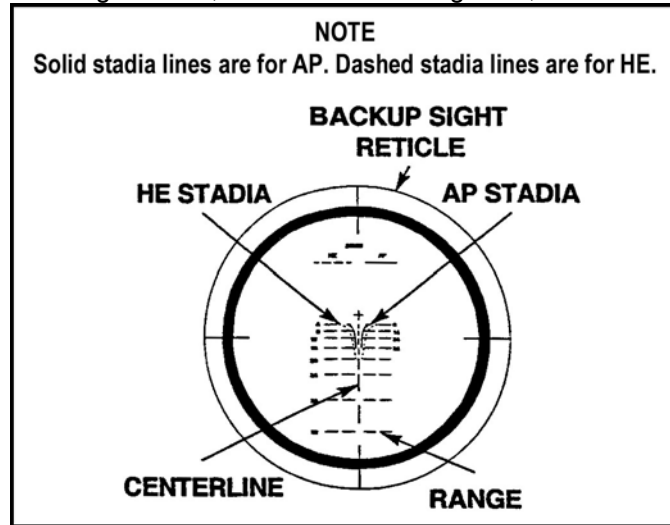

Figure 27. AUX sight reticle.
- (3) Align the AUX sight reticle, 1200 meter AP range line, with the target (Figure 27).